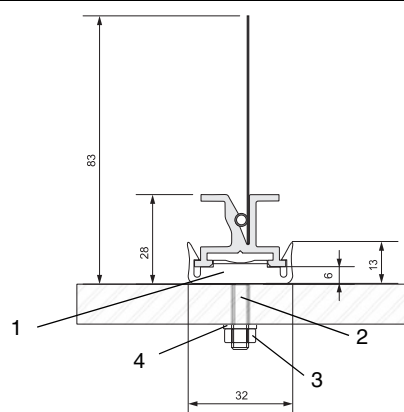

Fig. 6
- WCS3-MH2: Rail holder with mounting system for installation in C profile rail 30 x 32 mm (Fig. 6).